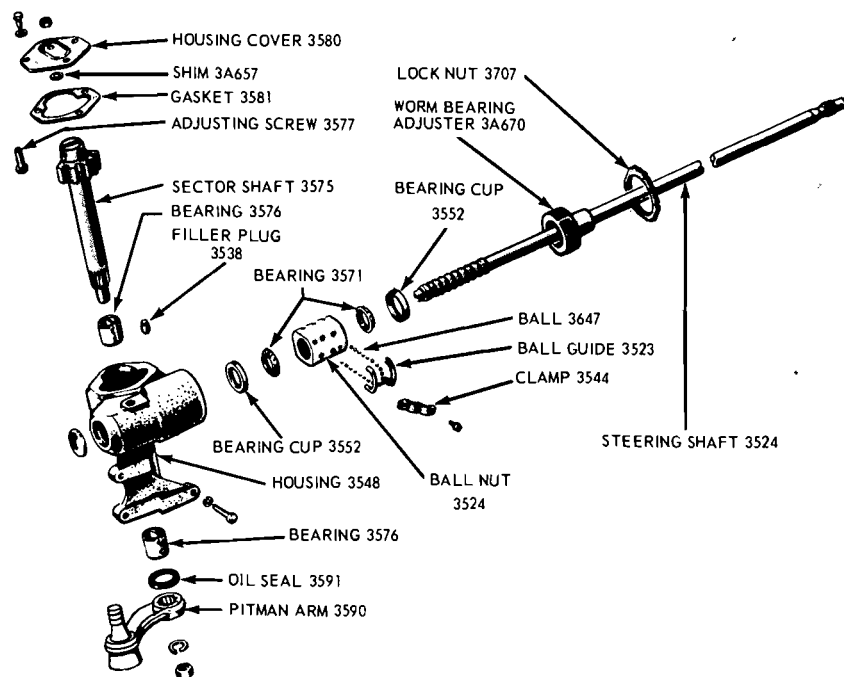

FIG. 16—Manual Steering Gear Disassembled
2. After removing the sector adjusting screw locknut and the housing cover bolts, remove the sector shaft with the cover. Remove the cover from the shaft by turning the screw clockwise. **Keep the shim with the screw (Fig. 16).**